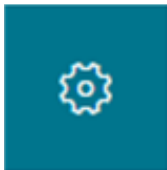

Figure 51. Settings Menu Icon
1. Click on the Settings menu, see **Figure 51**, and the “Organization Settings” menu will appear.
2. Select “Locations” option from Organization Settings menu. See number 2 in **Figure 51**.
3. Click on “+ Add Location” button on the screen. See number 3 in **Figure 51**.
4. Enter the Job Site Name and Address and click “Done” button. See number 5 in **Figure 51**.